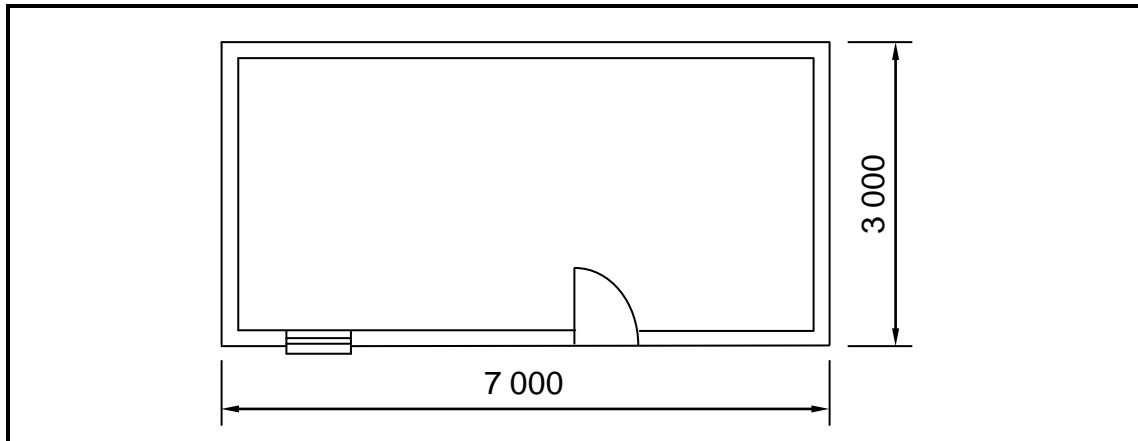

FIGURE 4.4
4.4 FIGURE 4.4 below shows the floor plan of a storeroom.